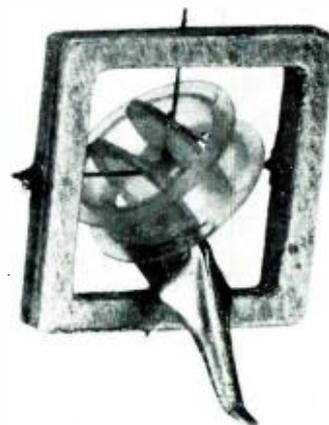
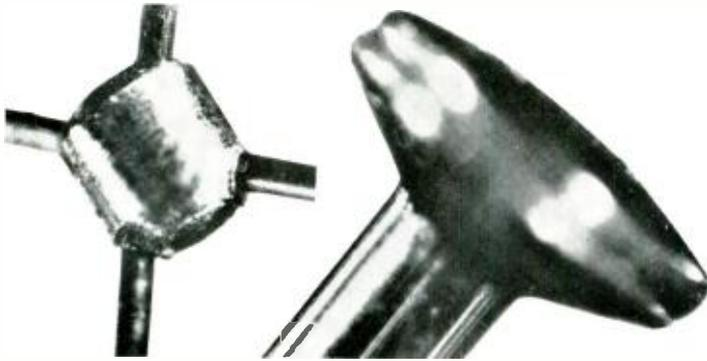

Fig. 3. Photograph of the coil assembly shown in Fig. 2.
Fig. 4. (A), left, microphoto of center piece, approximately 40 times actual size. (B), right, Head of a common pin to the same magnification for comparison.
Figure 3 shows the suspension system for an early made Fairchild stereo pickup. Since it is more important to get such parts made quickly rather than by the method which may ultimately prove most economical, all of the various parts required for this prototype cartridge were hand-made in the Engineering Model Shop. The coils (here shown without wires for clarity) are supported by the two thin rods which pass through the central coil support. This coil support is also shown enlarged, (A) in Fig. 4, with about 40 times magnification, while (B) shows the head of a common pin at the same magnification, for purposes of comparison. Incredible as it may seem, these pieces are made to a drawing. They are turned on a lathe, shaped and finished, and then drilled
with two holes which are 0.006 inches in diameter and at right angles to each other, with the centers of the two holes passing each other only 0.0065 inches apart. (Although such manipulations would seem to be almost impossible, they are everyday tasks for these Model Shop technicians, who take such outlandish requests in stride.) The "rods" are passed through these holes, in which they are a tight fit, and cemented. The entire coil assembly is then fastened to this single-point suspension and secured to the mounting frame shown in Fig. 3 to form a complete sub-assembly.